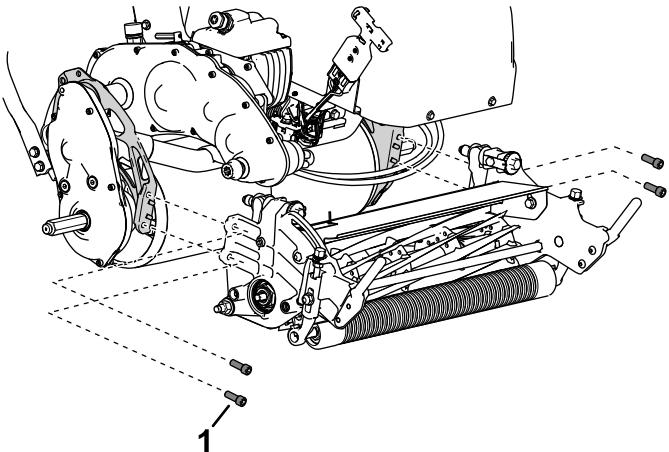

Figure 37
5. Use 4 socket-head screws to secure the cutting unit to the frame (Figure 37).